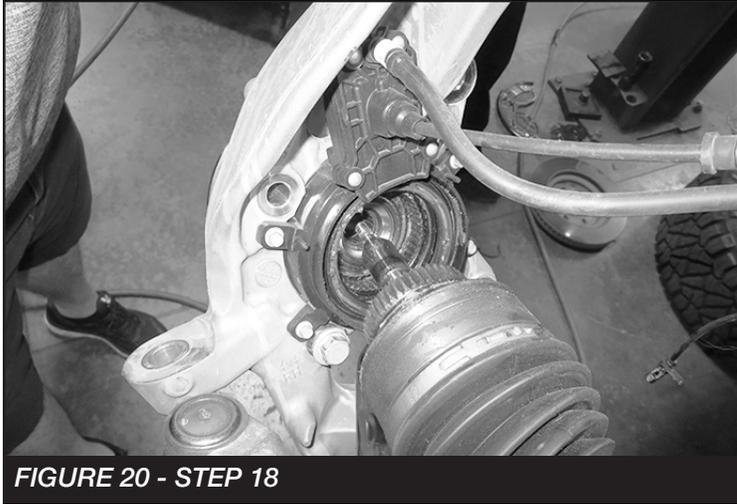

FIGURE 20 - STEP 18
18. Carefully install the 4wd hub actuator onto the CV shaft and to the knuckle using the factory bolts and thread locking compound. Torque the four bolts to 5 ft-lbs. **SEE FIGURE 20**